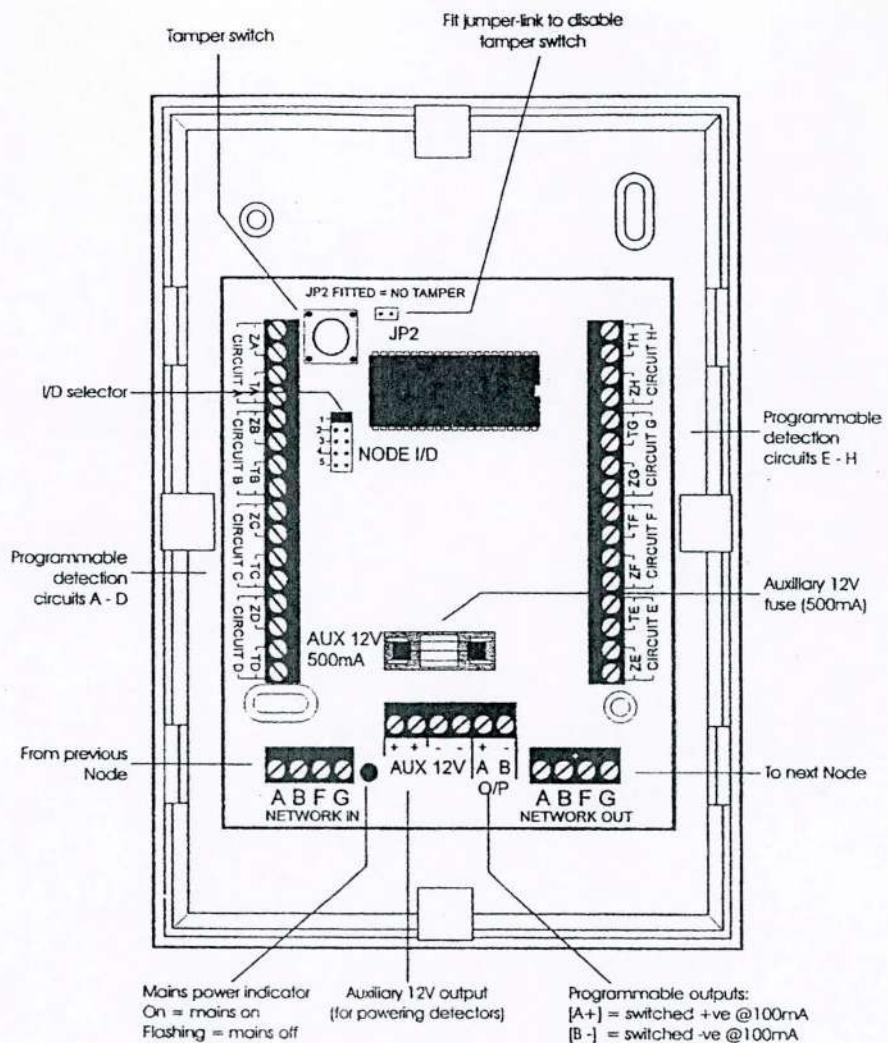

Figure 17. TS900 Node Layout
2. If the Node is being fitted inside the control panel you may remove the Node PCB from its base and secure it to base of the control panel using self adhesive feet. If required, the tamper switch can be disabled by fitting the jumper link across JP2, see *Figure 17*.